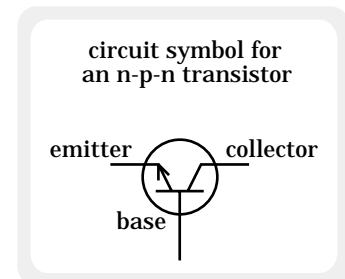

FIGURE 21.19
6.) This type of transistor is called an n-p-n transistor--"n-p-n" because its structure looks like a p-type semi-conductor sandwiched between two n-type semi-conductors. Its symbol is shown in Figure 21.19.
Note: We could as well have made our transistor a p-n-p type (the symbol for a p-n-p transistor is the same as shown in Figure 21.19 but with the arrow pointing in the opposite direction). The final setup for the amplifier circuit would have been a little different, but the end result would have been the same.